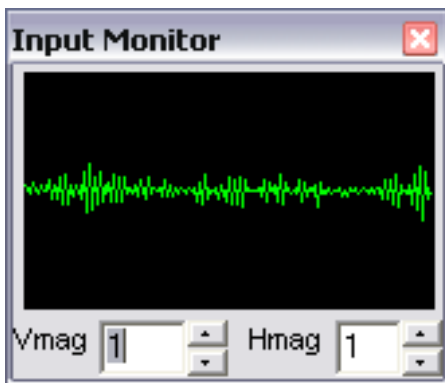

Fig 8.4. Spectrum Lab's
Switch on capture of the input signal with the **Start/Stop /Sound Thread** menu command. Then open up the **View/Windows /Input Monitor** Window shown in Figure 8.4. Gradually increase the gain in the first stage whilst looking for the signal on the Spectrum Lab waterfall display, as explained in the next chapter.
- There is a visible signal in the input monitor. If the green line is flat, then increase the gain of the SSRT amplifier until the signal becomes visible at approximately the level shown in Figure 8.4. Ideally you should only need to use the first stage of the dual amplifier on the SSRT's on-board electronics to provide the necessary gain. So, keep the gain in the second stage turned right down unless the signal is very weak.